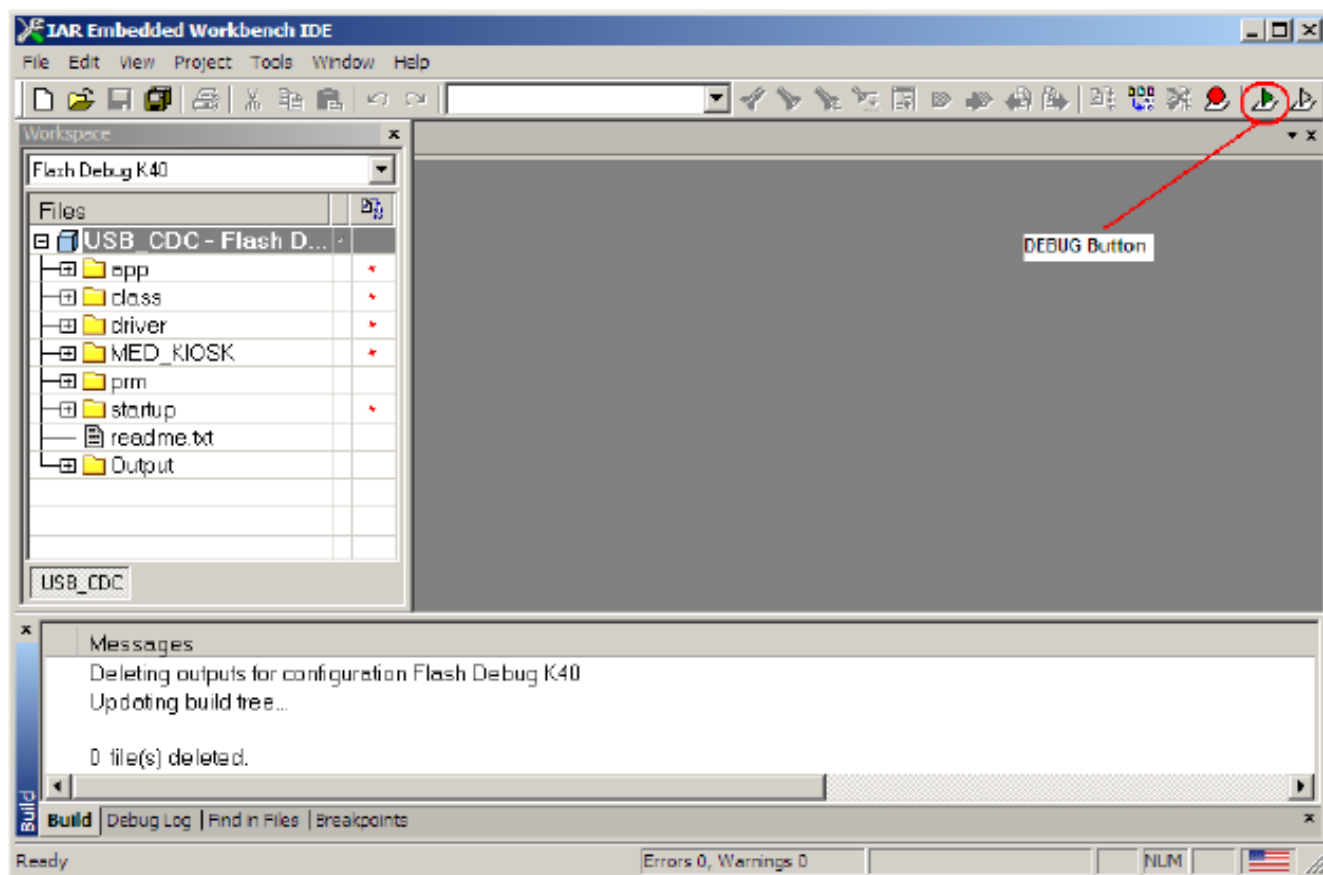

Figure 20. Debug button
3. Load the project into the MCU by clicking the DEBUG button (Figure 20). The project will compile automatically and load into the MCU. After that, disconnect the USB cable from the TWR-K53N512 board.